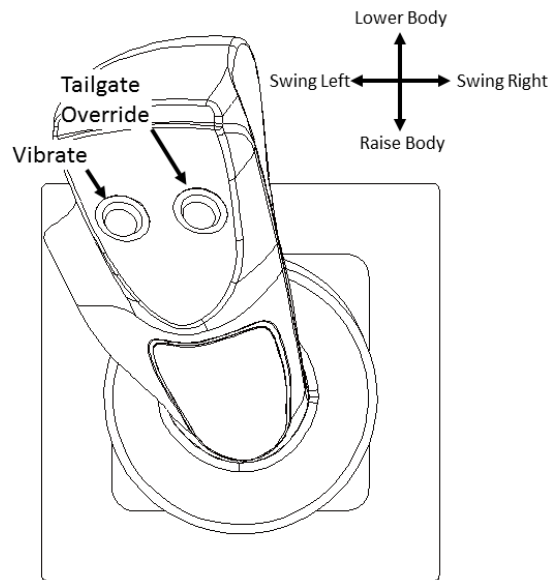

Figure 2.2.4 - Joystick Operation
2. Pull the joystick back towards the rear of the truck to raise the body. Releasing the joystick from this position at any time will stop the body from raising. See Figure 2.2.4 for joystick operation.
2. Move the joystick to rotate the back of the body in the intended direction. See Figure 2.2.4. An alarm will sound while the body is being rotated. Releasing the joystick at any time will stop the dump body from moving.